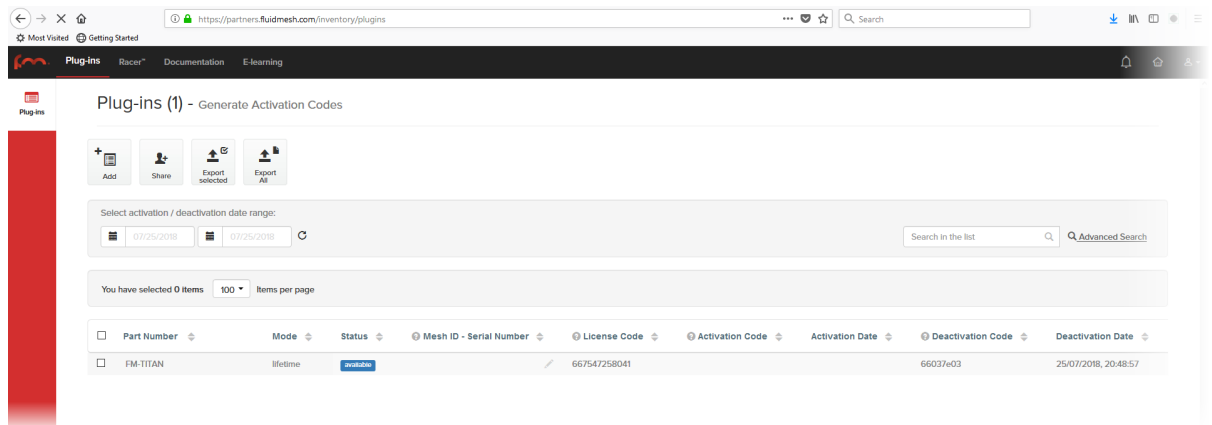

Figure 53. Partner Portal (Plug-ins web page)
- The Plug-ins web page will be shown (Figure 53 \(page 109\)).